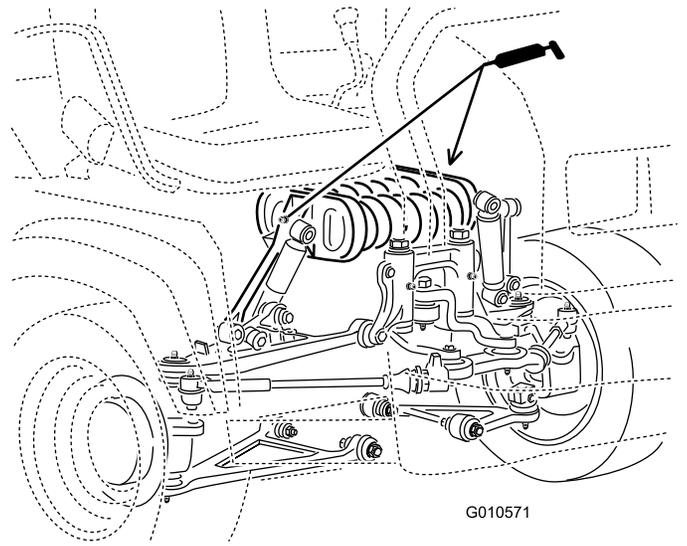

Figure 40
- Spring tower (2) as shown in Figure 40